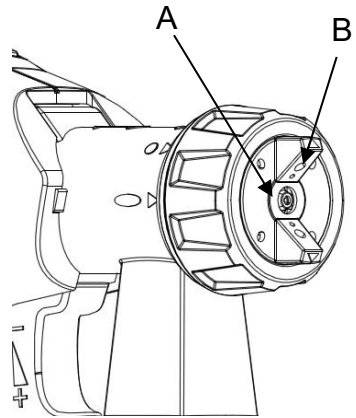

Fig 2
- When coating material builds up on the nozzle (A) and air cap (B) (Fig.2), clean both parts with a solvent or water.